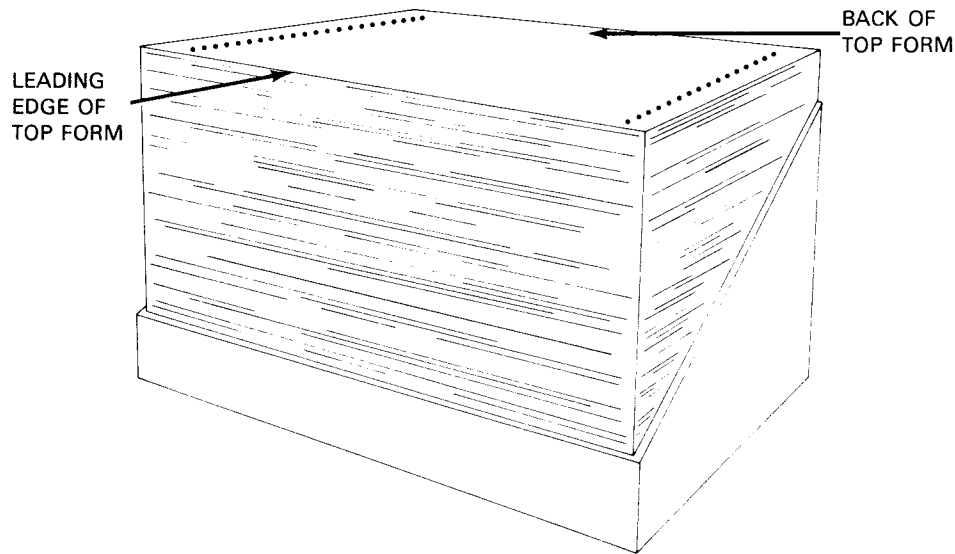

Figure 5—88. Recommended Cut for Forms Container
4. Press the carriage release latch (Figure 5—89) to unlock the print carriage. Swing the print carriage out to its fully open position.
5. Set the tractors adjustment control (Figure 5—89) for maximum adjustment capability by turning the control until the two retaining rings on the tractor supports are equally spaced from their respective side castings.
6. Unclamp the two upper tractors by lowering the release latch adjacent to each upper tractor. Unclamp the two lower tractors by raising the release latch adjacent to each lower tractor (Figure 5—89).
7. Flip open the four tractor plates to obtain access to the tractor teeth on the upper and lower tractors (Figure 5—90), and raise the leading edge of the print forms over the tractors and onto the paper guide screen. The print surface should face the operator.